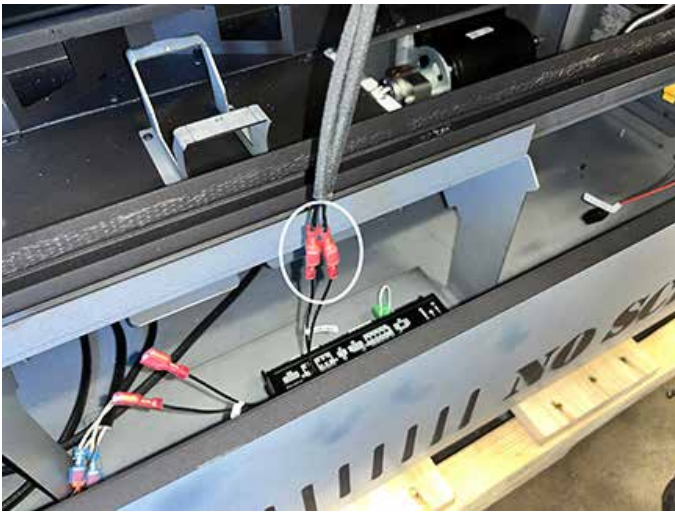

Figure 79: Blower wire harness connected
16. Take the wire harness from the optional blower kit and connect the red connectors in the middle of the harness with two wires in each to the wires from the module. Figure 79.